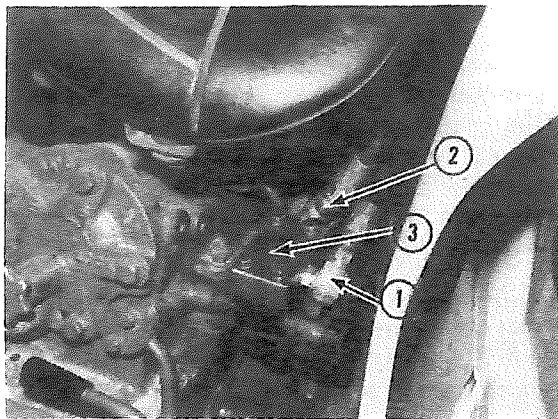
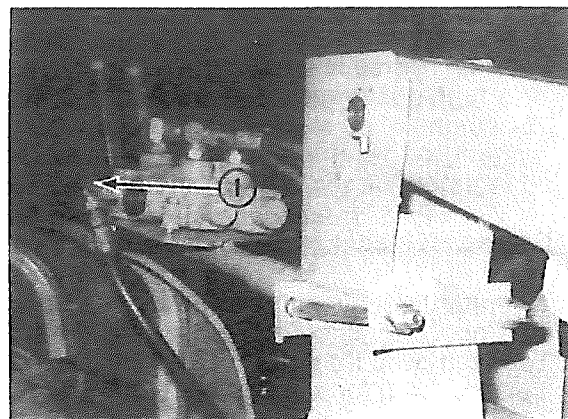

FIG. 20
FIG. 21
21. See Figure 20 for tractor hydraulic hookup. Install 90° fittings into the hydraulic block supplied with the loader. Remove the tractor hydraulic block cover plate. Make sure o-rings remain in their seats on the tractor block. Using the tractor bolts, install the loader block on the tractor block and tighten. Install hoses between the block fittings and the valve (as shown). See Figure 21.